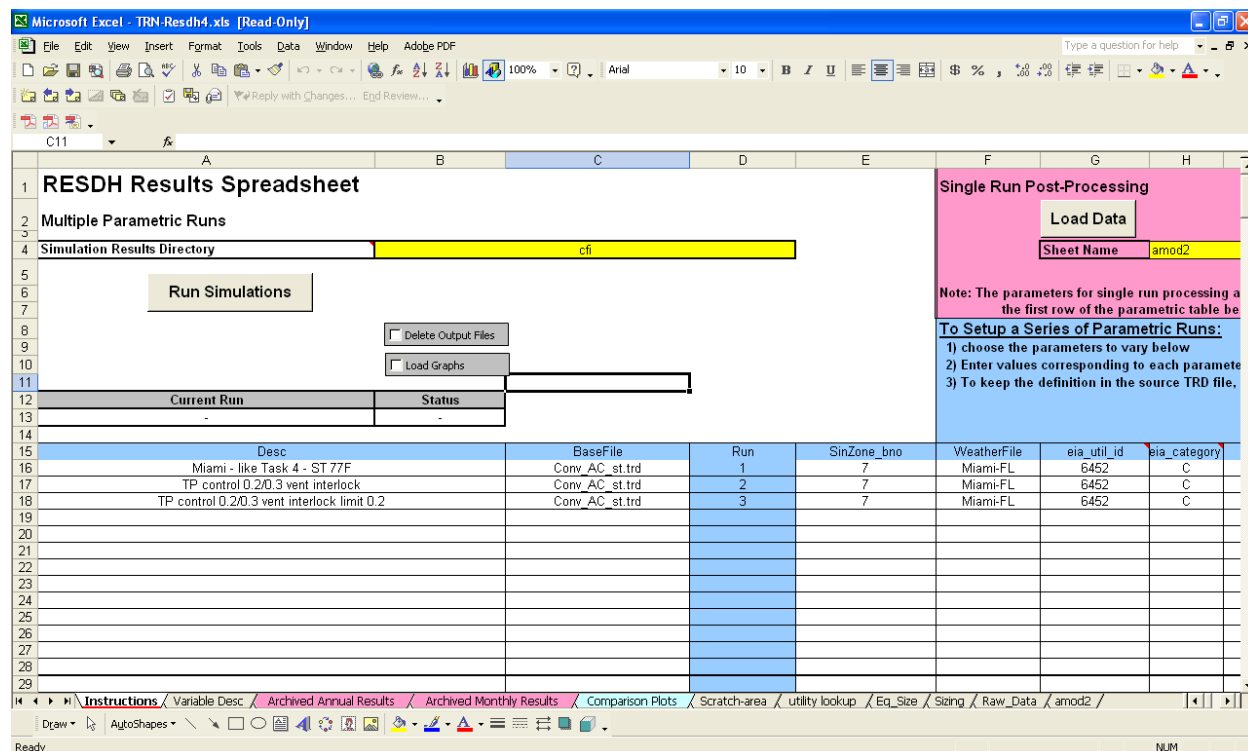

Figure 4. Screen Shot of TRN-RESDH5.XLS Spreadsheet
2. Load the data from the simulation, by pressing the **Load Data** button on the “*Instructions*” worksheet (see Figure 4).
The parametric inputs (or variables) for multiple runs is defined starting on row 15 (blue row) of the “Instructions” sheet (see Figure 4). The input variables, which were described for each TRNSYS menu in the sections above, are entered into row 15. The different values to be used for the variables are entered in the subsequent rows. The set of values in each row represent the set of inputs for one simulation run.